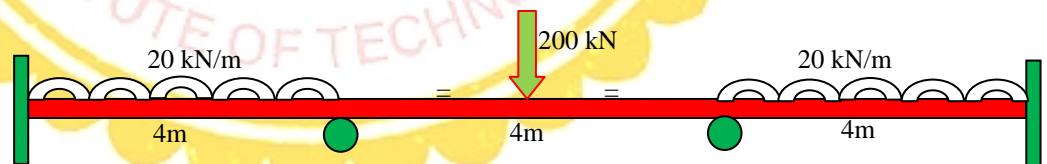

Fig. 2
- Q2. For the structure shown in Figure 2, use symmetry to formulate the matrix equations (consisting of the force matrix, including reactions, and the stiffness matrix).